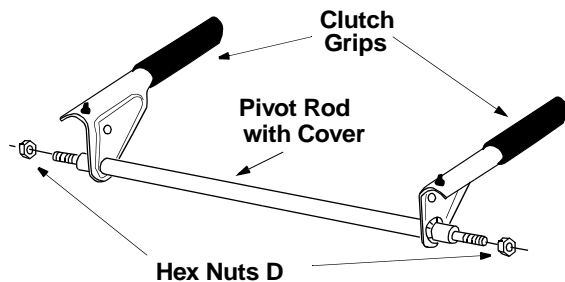

Figure 4
- Place the clutch grips in position on the rod as shown in Figure 4. Thread hex nuts (D) onto each end of the rod. Tighten nuts allowing the clutch grips to move freely on the pivot rod. See Figure 4.